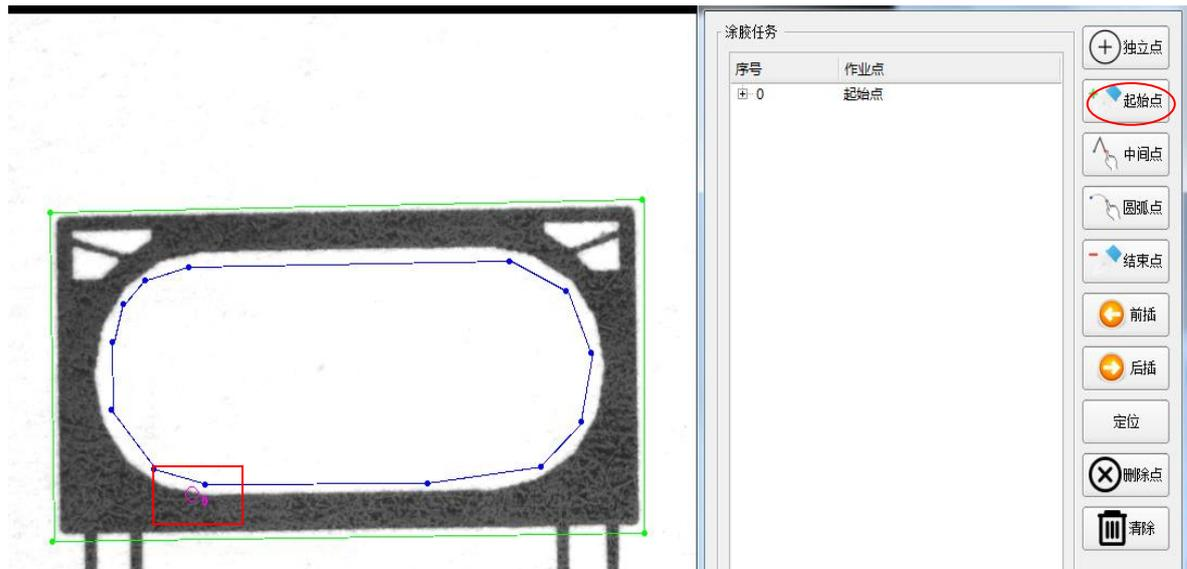

Figure 29 Starting point adding
1) Add the starting point near the intersection of the straight line and the arc, as shown in figure 29;